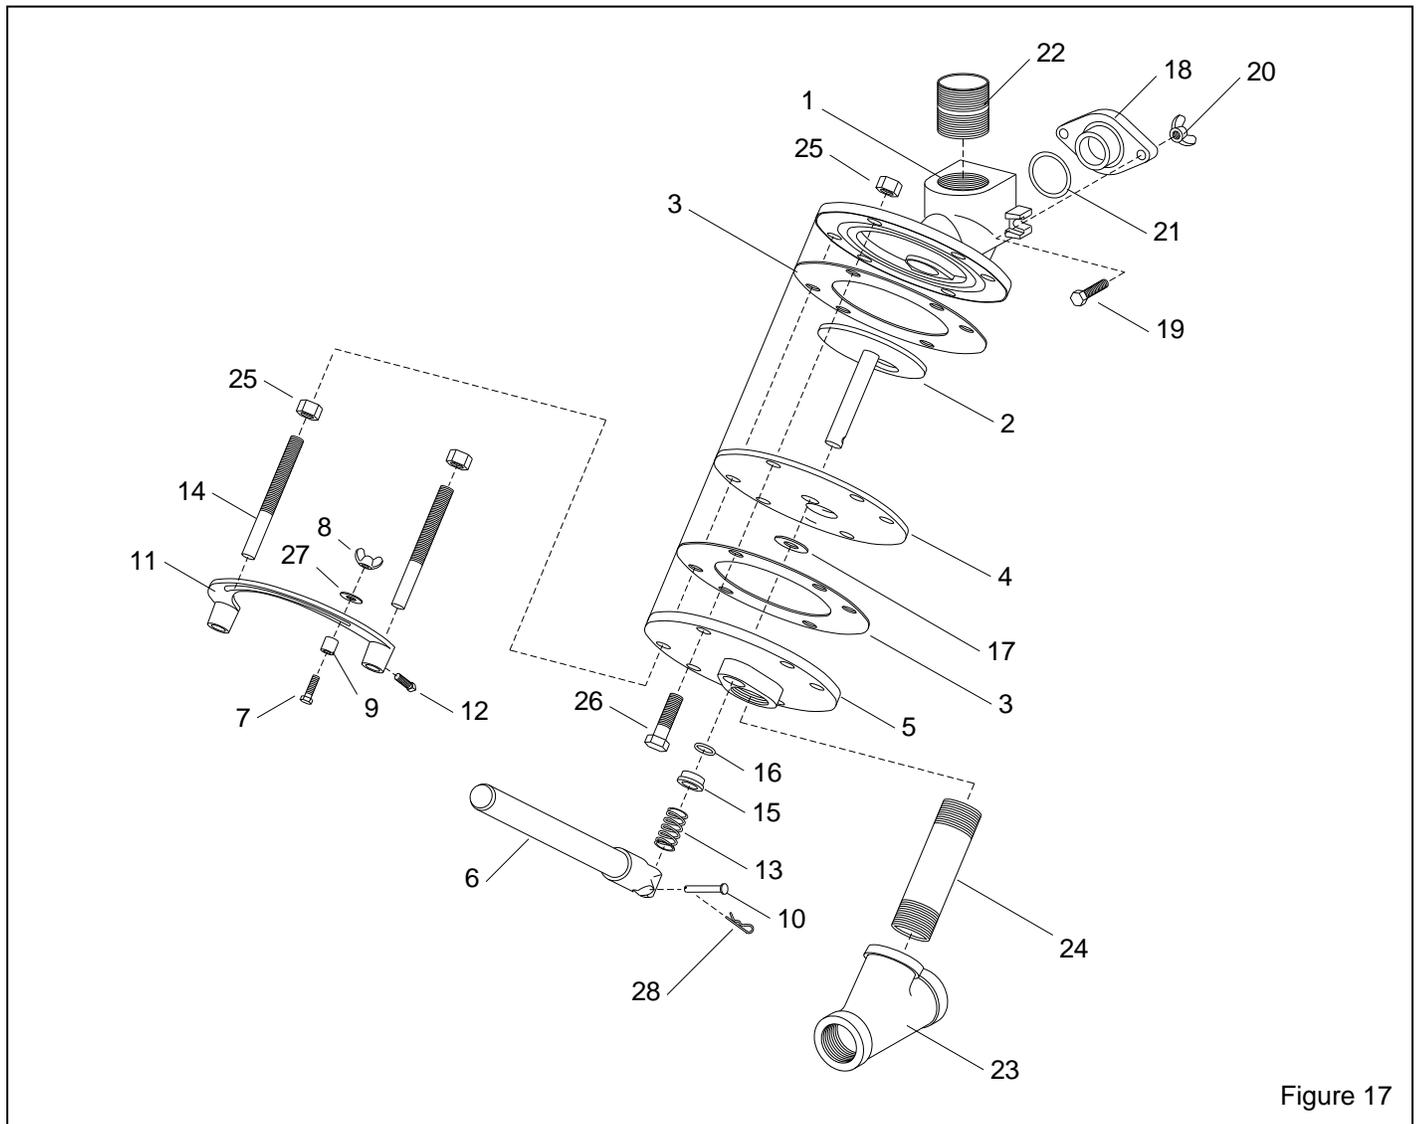

Figure 17
8.3 FSV Abrasive Metering Valve, Figure 17